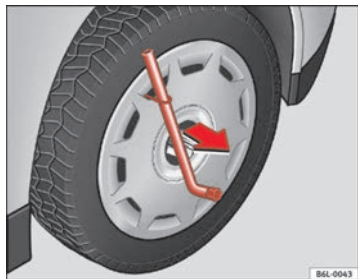

Fig. 135 Remove the complete hub cap
- Remove the wheel cover using the wire hook ⇒ fig. 135.